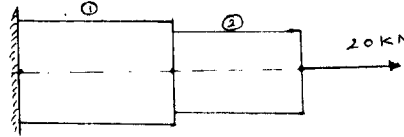

Fig. Q4(a)
- b. Obtain the element stresses of the stepped bar shown in Fig. Q4(b) using penalty approach.